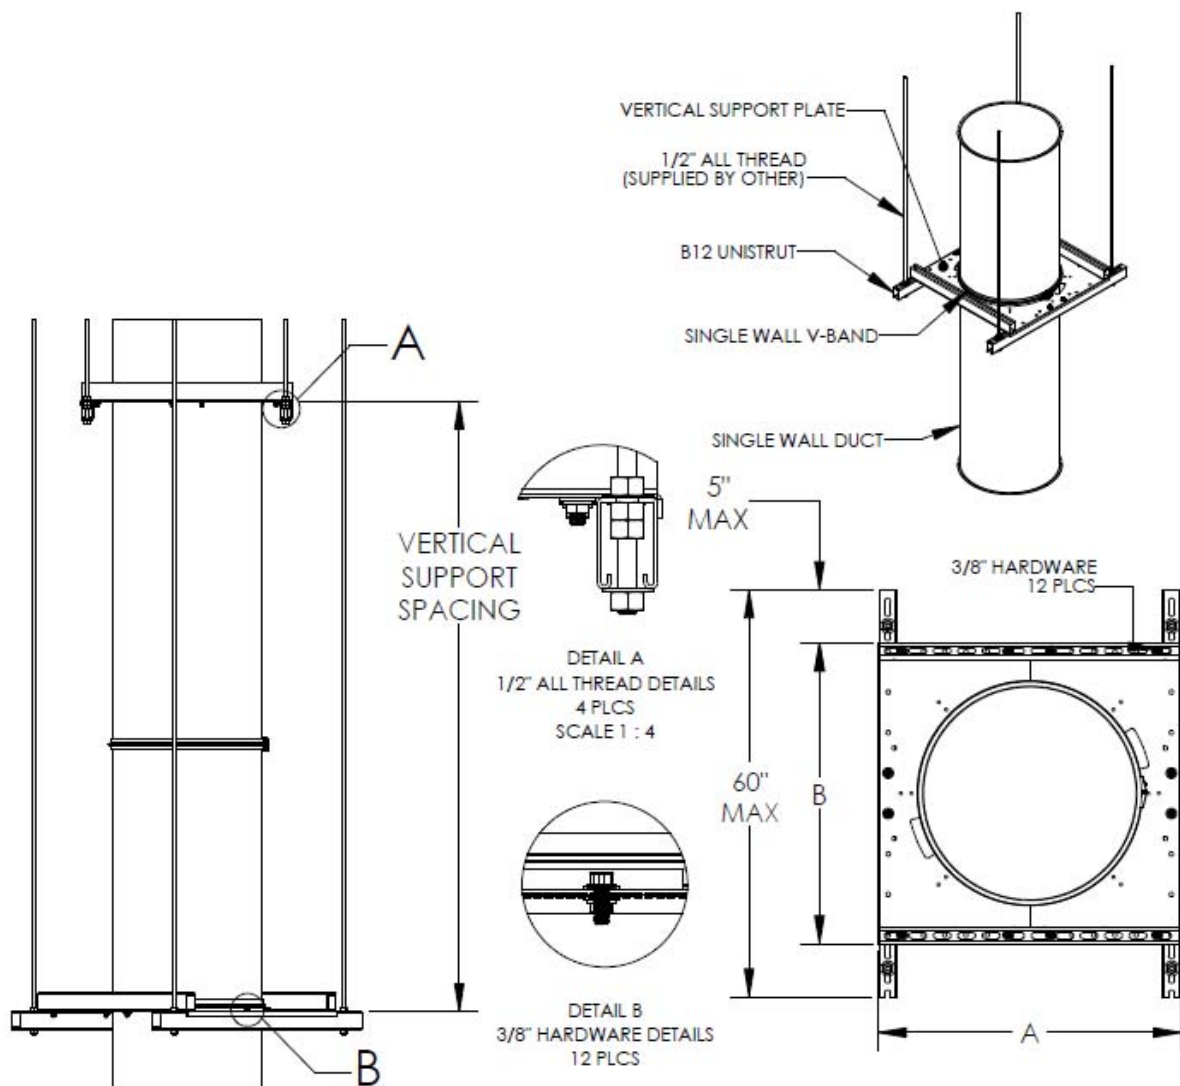

Figure 6. Ceiling Vertical Support Assembly
D. FLOOR/CEILING VERTICAL SUPPORT ASSEMBLY – Use the floor or ceiling support assembly (refer to Figures 6 and 7) supplied by the duct manufacturer and consisting of two
12 GA galvanized steel vertical support half-plates and B12 Unistrut sections. Also use 1/2 in. steel threaded rod hangars for ceiling support assembly as shown in Figure 6. Assemble the
supports as shown in Figures 6 and 7 using supplied 3/8 in. hardware. Ensure the max. unsupported length of grease duct (Item 1) does not exceed the following requirements: